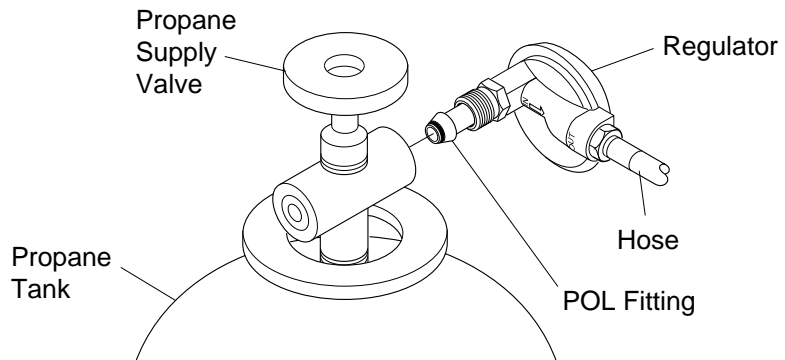

Figure 3 - Regulator Position
2. Connect POL fitting on hose/regulator assembly to propane tank(s). Turn POL fitting counterclockwise into threads on tank. Tighten firmly using wrench. **IMPORTANT:** Position regulator so that hose leaving the regulator is in a horizontal position (see Figure 3). This places the regulator vent in the proper position to protect it from the weather.